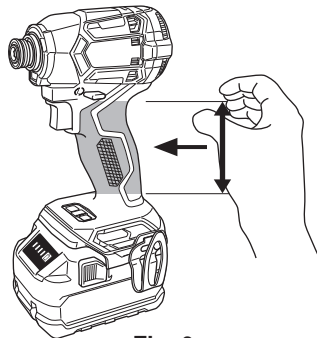

Fig. 8
- Make sure to securely hold the tool during operation. Failure to do so can result in accidents or injuries. (**Fig. 8**)